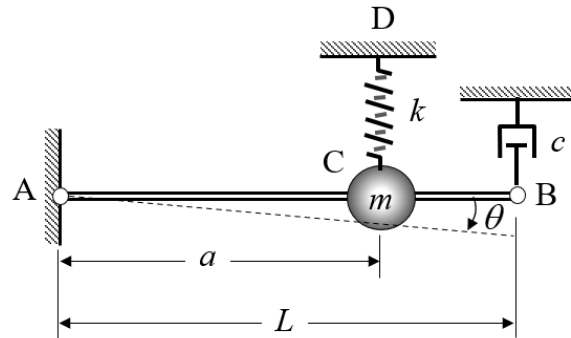

Figure 3
- 3 (a) Figure 3 shows the static equilibrium configuration of a 1-DOF vibrating system wherein a rigid rod AB of mass M and length L is hinged at point A and is carrying a rigid sphere mass m at point C. The mass is connected to a vertical spring of stiffness k and the rod is connected to a viscous damper of damping constant, c . Treat the sphere as point mass.